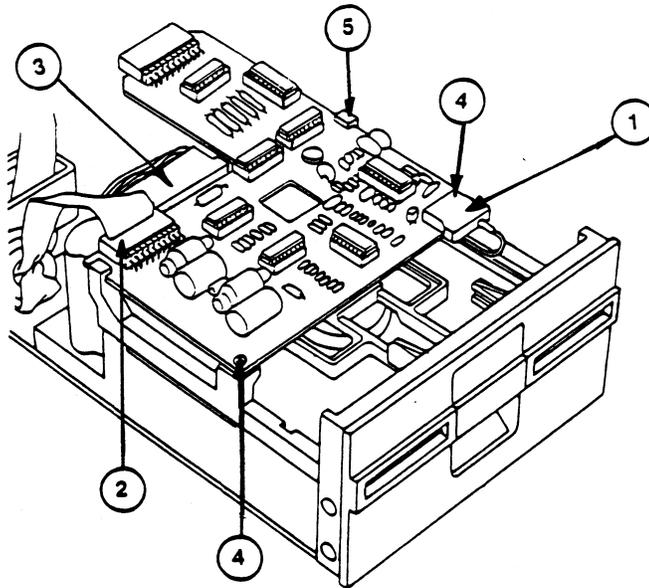

FIGURE 2
5. Disconnect the ribbon cable connector from the analog card (Figure 2, #2). It might be fastened very securely, so grasp the connector and pull back firmly until it disconnects. It may help to wiggle it gently back and forth as you pull back, but be careful not to bend the connector pins.
3. Attach the ribbon cable connector to the analog card, making sure that both rows of pins align with the holes in the connector (Figure 2, #2).